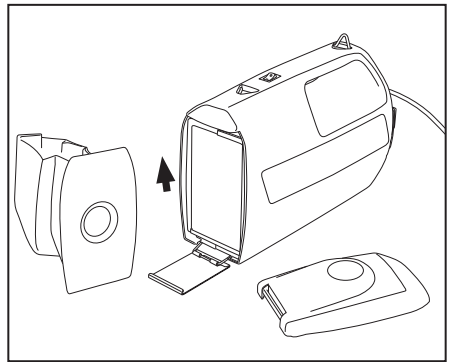

Fig. 16
- Install a new bag with the arrow on the cardboard pointing to the top of the vacuum (Fig. 16).